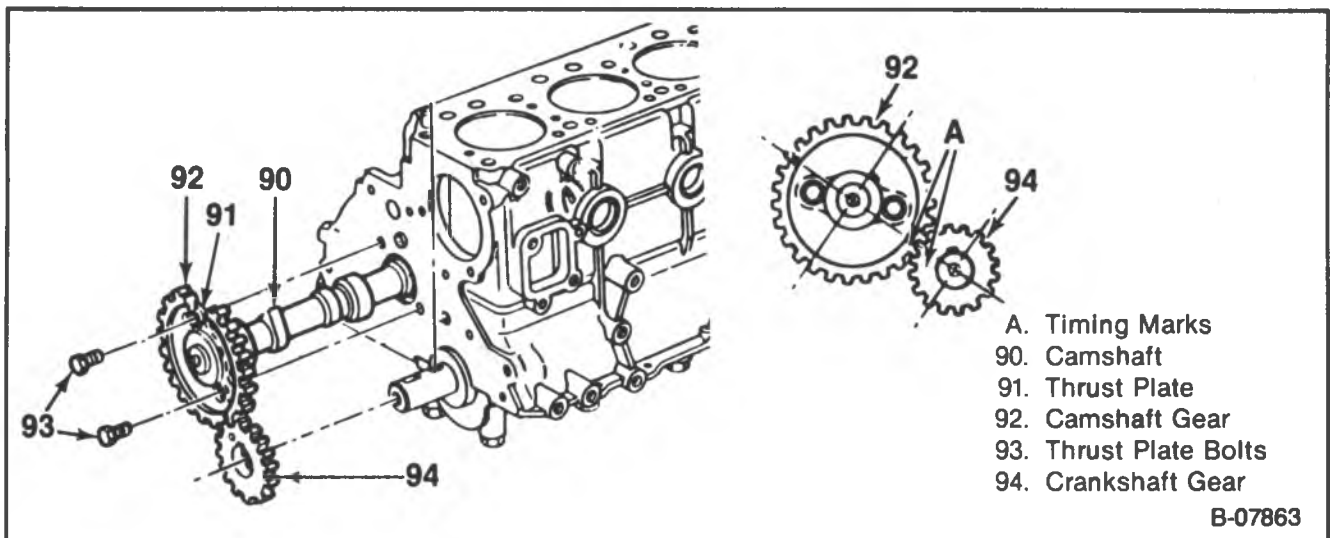

Figure 27 — Camshaft And Components
Remove or Disconnect (Figures 27 and 28)
- Align the timing marks (figure 27).
11. Thrust plate bolts (93).
Install or Connect (Figure 27)
- Align the timing marks on the crankshaft gear and camshaft gear (figure 27).
2. Thrust plate bolts (94).